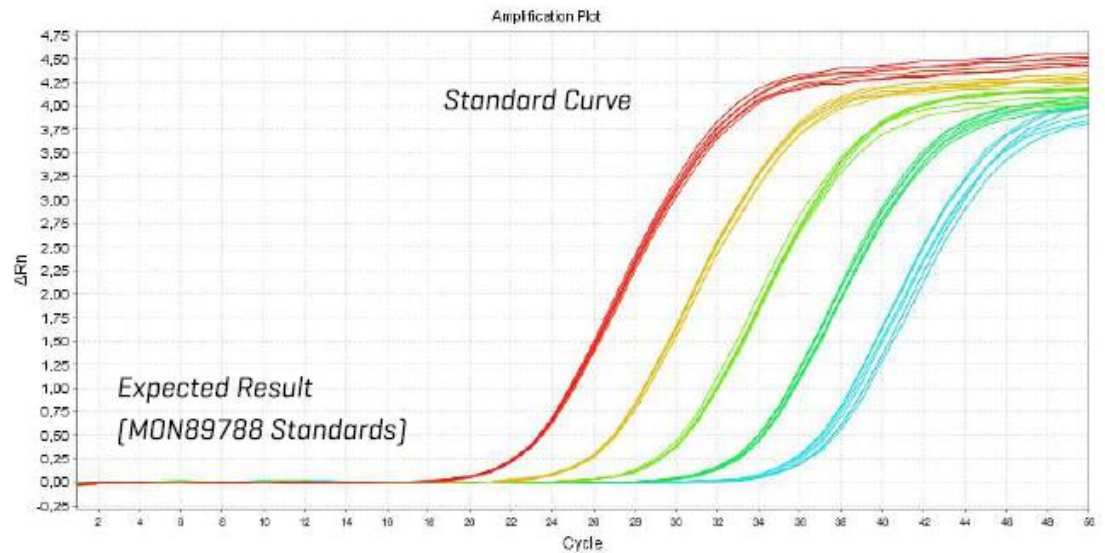

Figure 2. Standard curve amplification.
06. Vortex and spin the 1.5 mL tubes and dispense 20 µL per well or tube of 0.2 ml (see the example for three samples in figure 2).